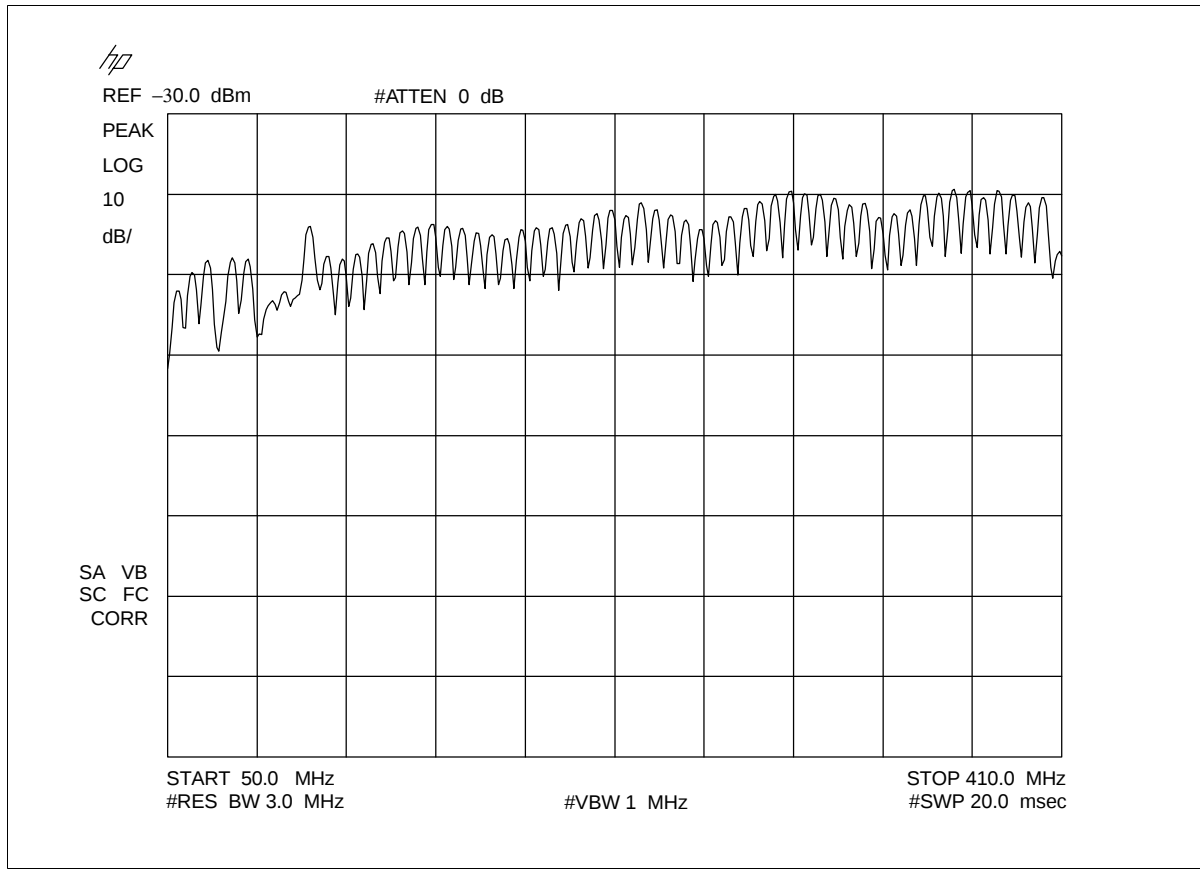

Figure 4.21. Reference trace of entire system for the system frequency response test.
- 3) Allow the maximum of each channel to "fill in" with TRACE TRACE A MAX HOLD. See Figure 4.21.